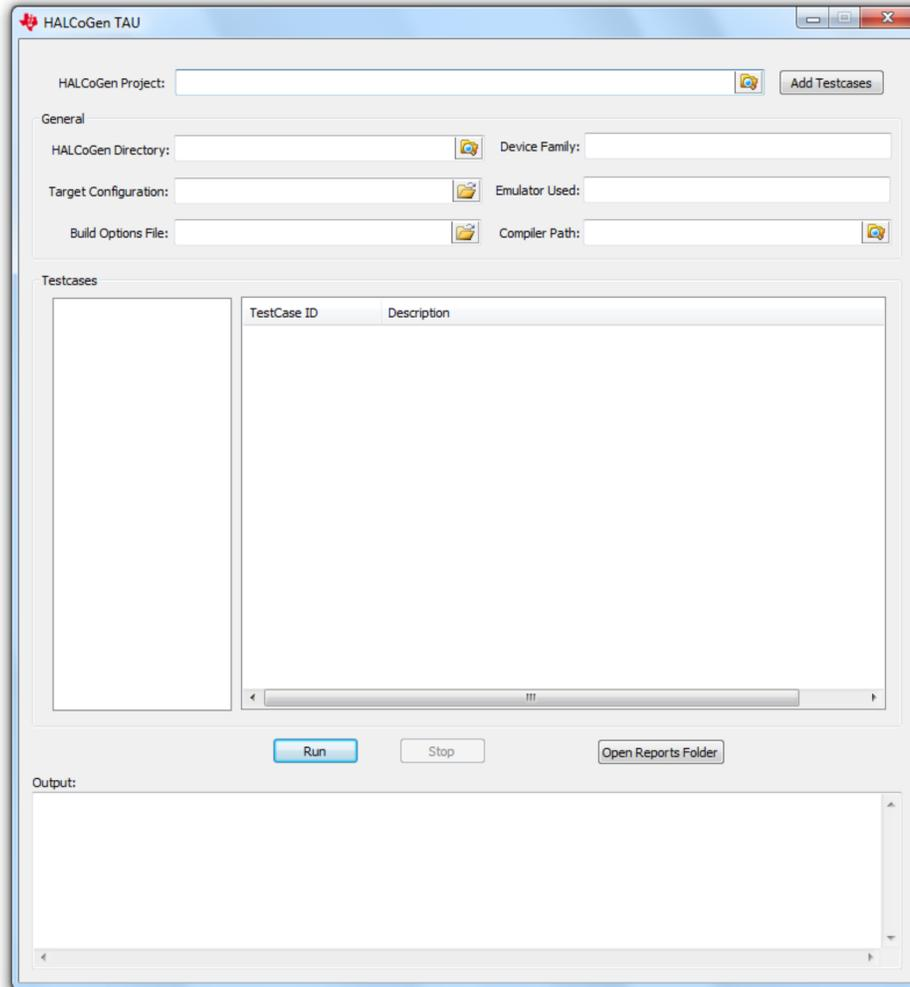

Figure 6. HALCoGenTAU GUI Open Page
3. Open the HALCoGen TAU tool (see Figure 6).